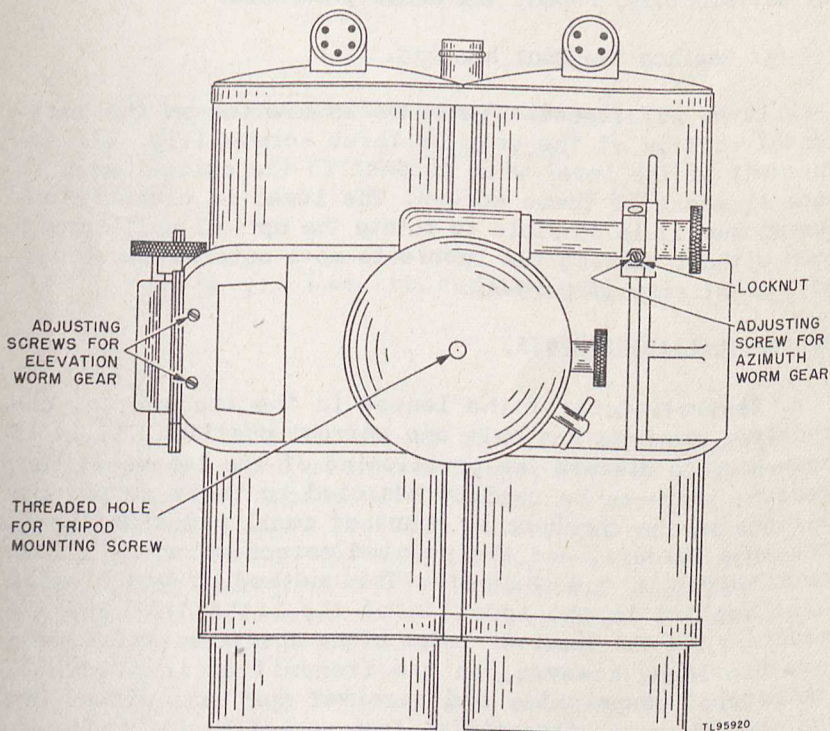

Figure 40. Location of gear backlash adjustments.
Mechanical adjustments provided on the optiphone are those on the optical unit for gear backlash (fig. 40), and on the spherical bubble level. One adjustment for backlash is provided for the azimuth worm and gear, and two adjustments are provided for the elevation worm and gear. To avoid backlash, the gears must engage closely and yet not close enough to bind, as smooth and even operation of the instrument through its vertical and horizontal movement is essential.
a. Azimuth Adjustment. Adjustment of the azimuth worm and gear is made by loosening the hexagon locking nut (fig. 40), and tightening or loosening the slotted screw
(1) Remove the elevation worm and gear housing. The two adjustment screws (fig. 40) rest against the bracket in which the worm is mounted. This bracket is secured to the optical unit by four screws, two of which are to be loosened from inside the housing; and two of which are to be loosened from the yoke under the chambers of the optical unit.
(2) Loosen the four bracket mounting screws.
(3) Tighten or loosen the two adjusting screws as required.
(4) Tighten the bracket mounting screws. Turn the elevation knob and check the backlash. If the performance is not satisfactory, repeat the above procedure.
(5) Replace the gear housing.